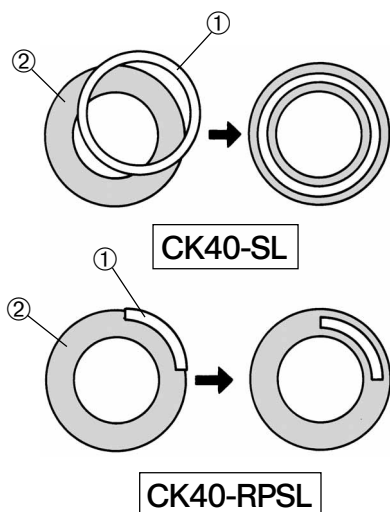

Fig. 35
(Figs. 35 & 36)
4. While looking into the centering telescope, turn the knurled dial to focus on the phase annulus ② of the objective corresponding to the light annulus or relief slit ①. (Fig. 35)
5. Insert the centering levers ④ into the two centering tapped holes ③ on the phase slider or RP slider. Tighten and loosen the centering levers until the light annulus or relief slit ① is superimposed on the phase annulus ②. (Figs. 35 & 36)
6. Repeat these steps to adjust the other objectives. Keep in mind, however, that 10X and 20X objectives share the same light annulus with the CK40-SL and CK40-RPSL. Put an uncentered objective into the light path to make absolutely sure the light annulus or relief slit ① is not deviating from the phase annulus ②. If there is any deviation, perform the centering procedure again.